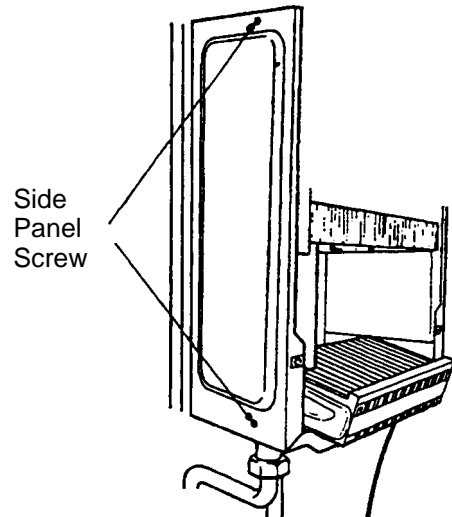

Fig. 29
- 8.6.4 Remove four burner retaining screws (fig. 30). Ease burner forward and rest on chamber base (fig. 29).
Note: If difficulty is found in relocating the burner securing screws, easier access can be gained by removing the two side panels (fig. 29).
Remove both side panels, 2 screws each (fig. 29)
Fig. 29 a